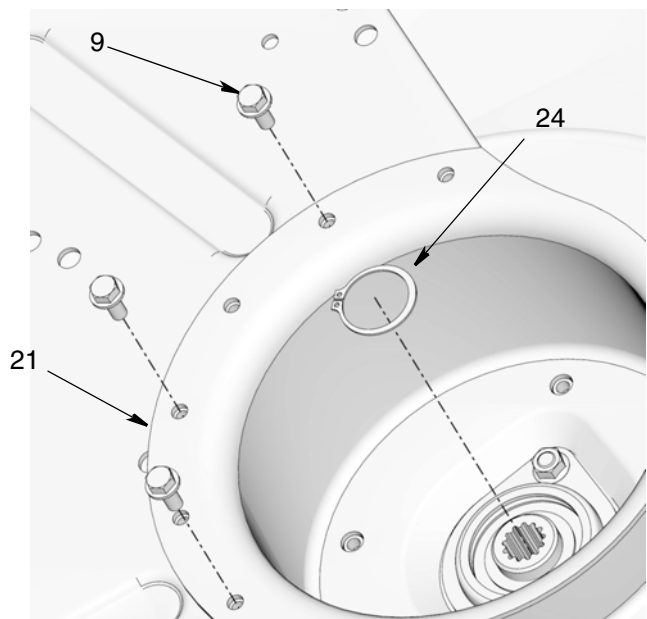
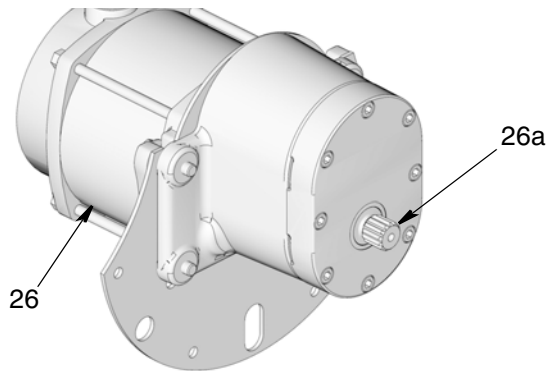

FIG. 44
FIG. 45: Electric Motor Shown
- c. Install motor mount bracket (21) to reel using bolts (9). Wrench tighten bolts and torque to 25-35 ft. lbs. (33.9 to 47.45 N.m) (FIG. 44).
- d. Install snap ring (24) (FIG. 44).
9. Install motor module (26).
- a. Ensure splined shaft (26a) on motor module (26) is greased with a high pressure lithium grease (FIG. 45).